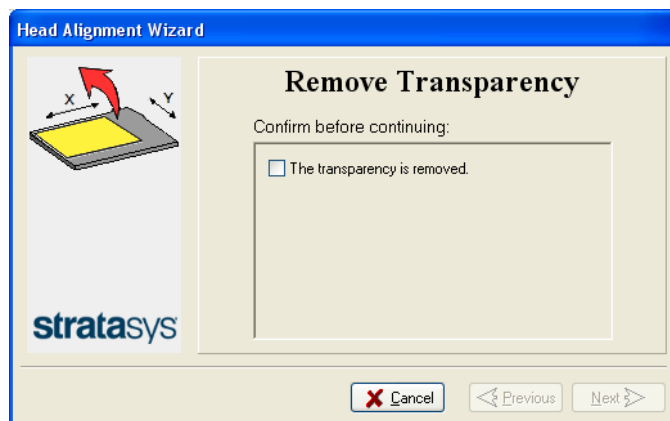

Figure 6-62 Head Alignment wizard—steps 8–10
10. In the wizard screen shown in Figure 6-62, select the *Transparency removed* check box, and click **Next**.